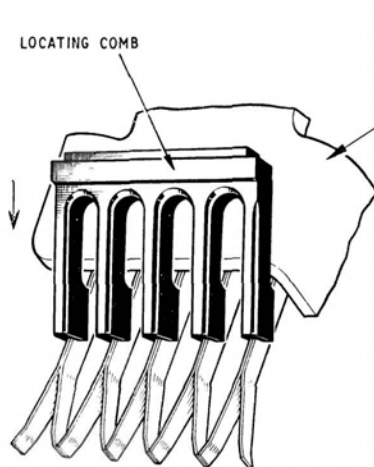
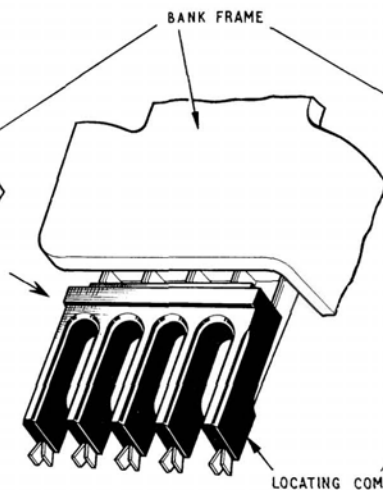
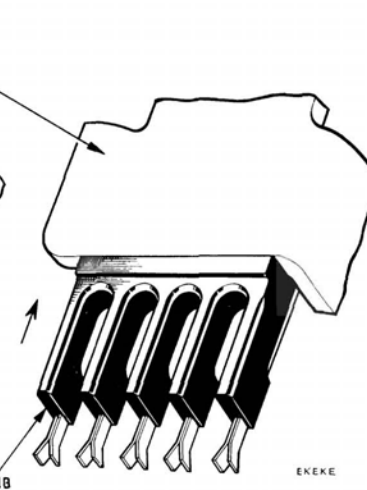

FIG. 5
FIG. 6
FIG. 7
6. **Replacing mechanism in bank.**—Place a locating comb over the brushes at a point above the set in the spring (see Fig. 5). Slide the comb downwards until the tips of each pair of springs have been compressed (see Fig. 6). The reduced rib of the comb should then be inserted behind the bank frame by sliding the comb upwards (see Fig. 7).